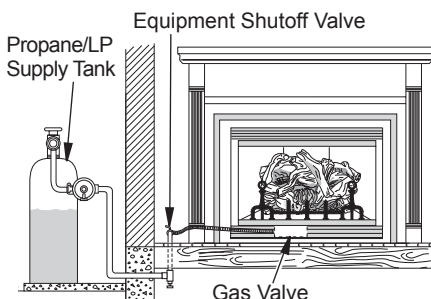
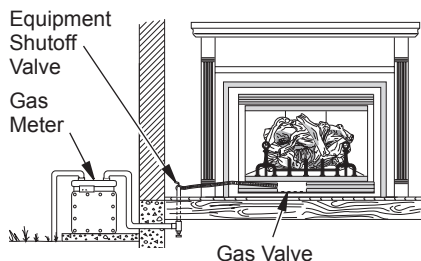

Figure 34 - Checking Gas Joints for Propane/LP Gas Fireplace
Figure 35 - Checking Gas Joints for Natural Gas Fireplace
3. Check all joints from propane/LP supply tank or gas meter to equipment shutoff valve (see Figure 34 or Figure 35). Apply noncorrosive leak detection fluid to all joints. Bubbles forming show a leak. Correct all leaks at once.
4. Check all joints from equipment shutoff valve to gas valve (see Figure 34 or Figure 35, page 23). Apply noncorrosive leak detection fluid to all joints. Bubbles forming show a leak. Correct all leaks at once.